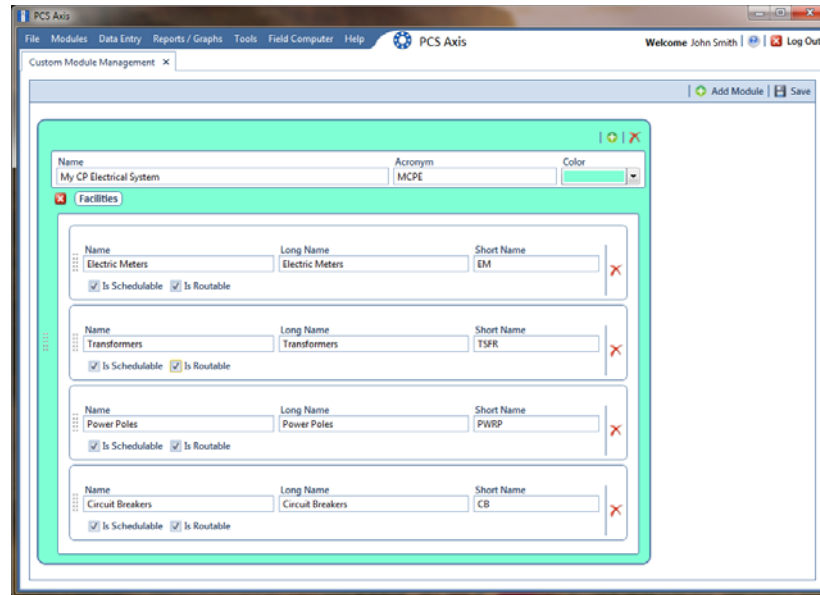

Figure 3-77. Custom Module Management
- 4 To set properties for one or more user defined facility types, complete the following steps (Figure 3-77):
- c Type an acronym for the user defined field in the **Short Name** field. The field accepts up to four (4) alpha characters. It does not support numeric or special characters.
The following example shows a user defined module with user defined facility types labeled *Electric Meters*, *Transformers*, *Power Poles*, and *Circuit Breakers* (Figure 3-77).